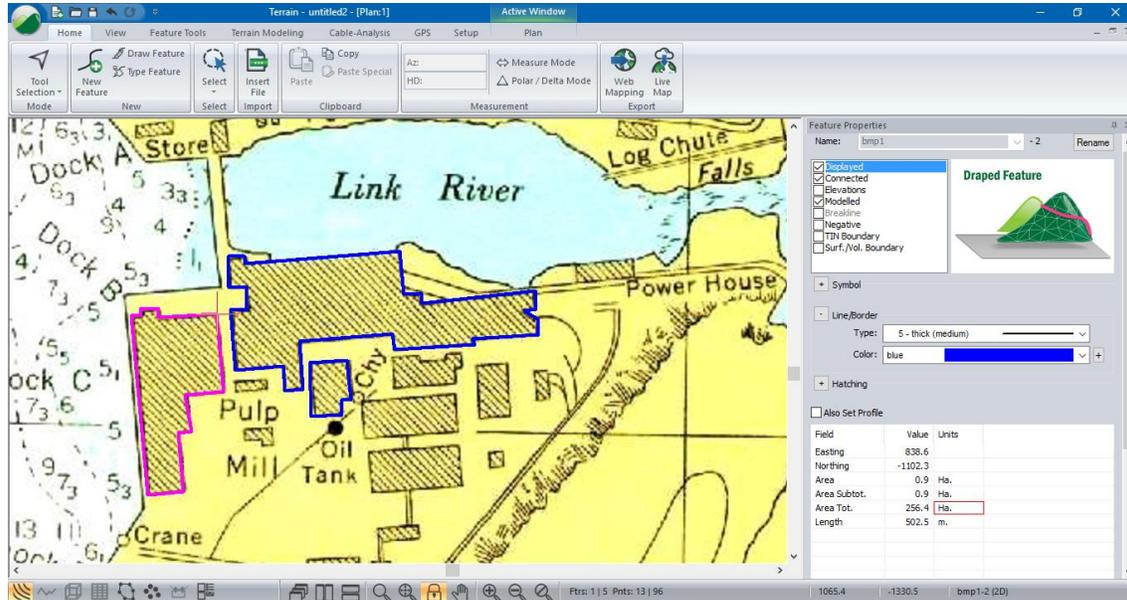

Figure 4-7: Traced Buildings with Status Details in the Feature Property Panel
17. Trace around the boundary of three of the buildings using the mouse (like in Figure 4-7):
18. Select each building perimeter with the mouse and look at the Status portion of the Feature Properties window. (Figure 4-7). If the panel is not currently showing, select from the bottom navigation bar, or *View | Add to Panel | Feature Properties*.